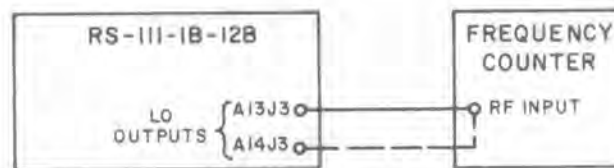

Figure 4-6. Test Setup, Fine Tuning Range Performance Test
- (1) Connect the equipment as shown in Figure 4-6.